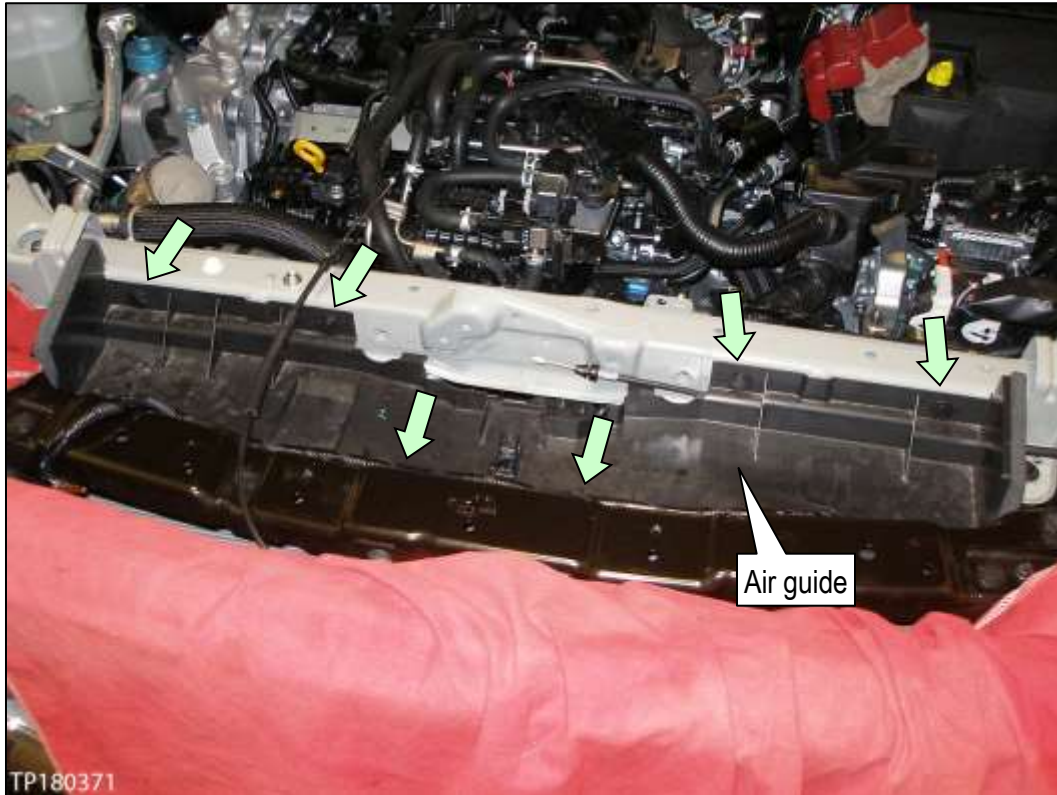

Figure 18
- a. Unfasten the clips (see arrows in Figure 18).